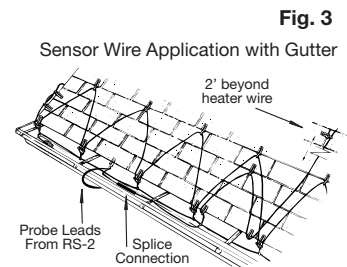

Fig. 3
2. Lay the Splice Connection and sensor wire along the bottom of the gutter within two inches of the roof de-icing cable. Route the sensor wire over at least one gutter support strap or nail in order to sense the full depth of the gutter, then route along one triangular weave of the heating cable on the roof as per diagram. At the peak of the second triangle, attach the sensor wire up the roof, at least 2 feet (60.96 cm) past the heater wire as illustrated. Use the clips provided to secure the sensor wire to the roof. Gently squeeze the coated end of the clip around the sensor wire. See Fig. 3.